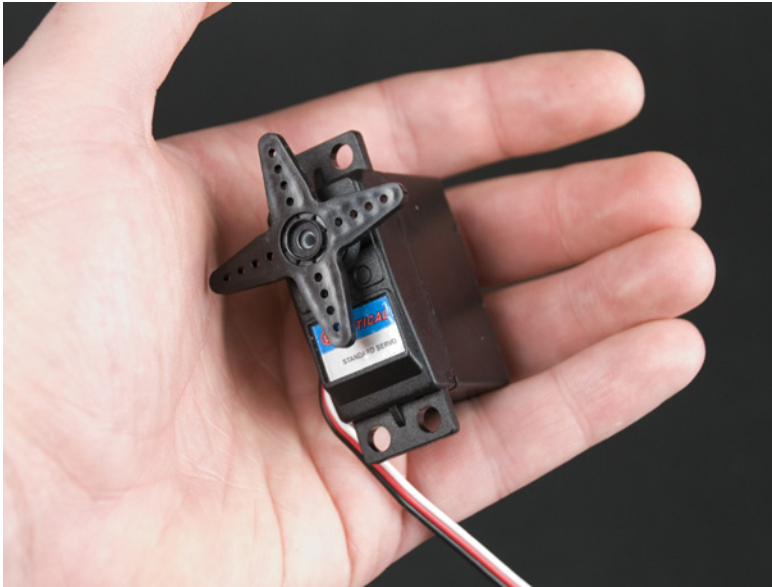

Figure 8-17. Finished continuous rotation servo
- Put the gears back in place and screw the lid back on. Now you have a continuous rotation servo, as shown in Figure 8-17.